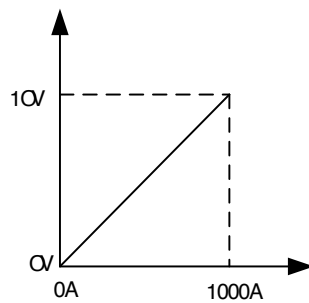

Figure 5-15 Corresponding relation of real-time current feedback
1. Corresponding relation of real-time current feedback is shown in Figure 5-15.